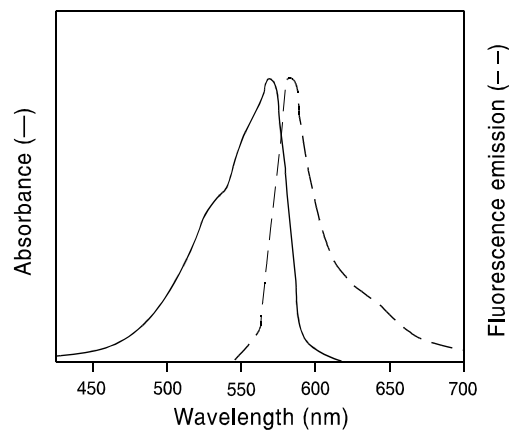

Figure 1. Normalized absorption and fluorescence emission spectra of resorufin, the product of the Amplex® Red reagent.
The Amplex® Red Sphingomyelinase Assay Kit provides a sensitive method for measuring sphingomyelinase activity *in vitro* using a fluorescence microplate reader or fluorometer. In this enzyme-coupled assay, sphingomyelinase activity is monitored indirectly using 10-acetyl-3,7-dihydroxyphenoxazine (Amplex® Red reagent), a sensitive fluorogenic probe for H₂O₂.¹ First, sphingomyelinase hydrolyses the sphingomyelin to yield ceramide and phosphorylcholine. After the action of alkaline phosphatase, which hydrolyses phosphorylcholine, choline is oxidized by choline oxidase to betaine and H₂O₂. Finally, H₂O₂, in the presence of horseradish peroxidase, reacts with Amplex® Red reagent in a 1:1 stoichiometry to generate the highly fluorescent product, resorufin.^{1,2} Because resorufin has absorption and fluorescence emission maxima of approximately 571 nm and 585 nm, respectively (Figure 1), there is little interference from autofluorescence in most biological samples. The kit can be used to continuously assay sphingomyelinase enzymes with near-neutral pH optima, whereas sphingomyelinase enzymes with acidic pH optima can be assayed in a simple two-step procedure. Experiments with purified sphingomyelinase from *Bacillus cereus* indicate that the Amplex® Red sphingomyelinase Assay Kit can detect sphingomyelinase levels as low as 80 µU/mL using a reaction time of one hour (Figure 2). The kit is useful for detecting sphingomyelinase activity in cell extracts or for screening sphingomyelinase inhibitors.
- 2.8 Measure the fluorescence in a fluorescence microplate reader using excitation in the range of 530–560 nm and emission detection at \sim 590 nm (see Figure 1).
- 3.11 Measure the fluorescence in a fluorescence microplate reader using excitation in the range of 530–560 nm and emission detection at ~590 nm (see Figure 1).